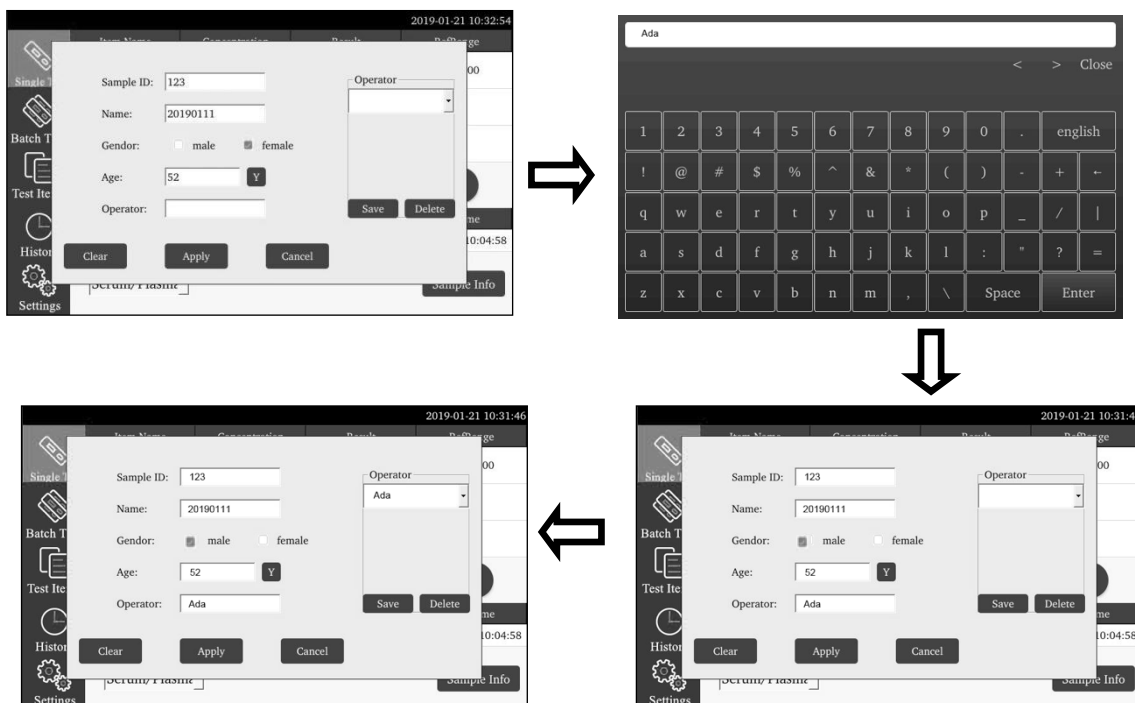

Fig 42
- Add and change the operator information (Ref Fig 42):